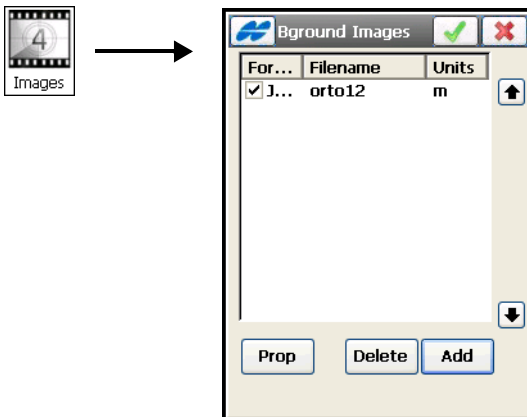

Figure 6-54. Select Image to Open
The **Background Images** screen (Figure 6-54) displays a list of available image files. Initially, the list is empty.
- The ok  button – returns to the **Background Images** screen (Figure 6-54 on page 6-45) with the file added to the list. To use a file once it is added, make sure the file is selected in the list.